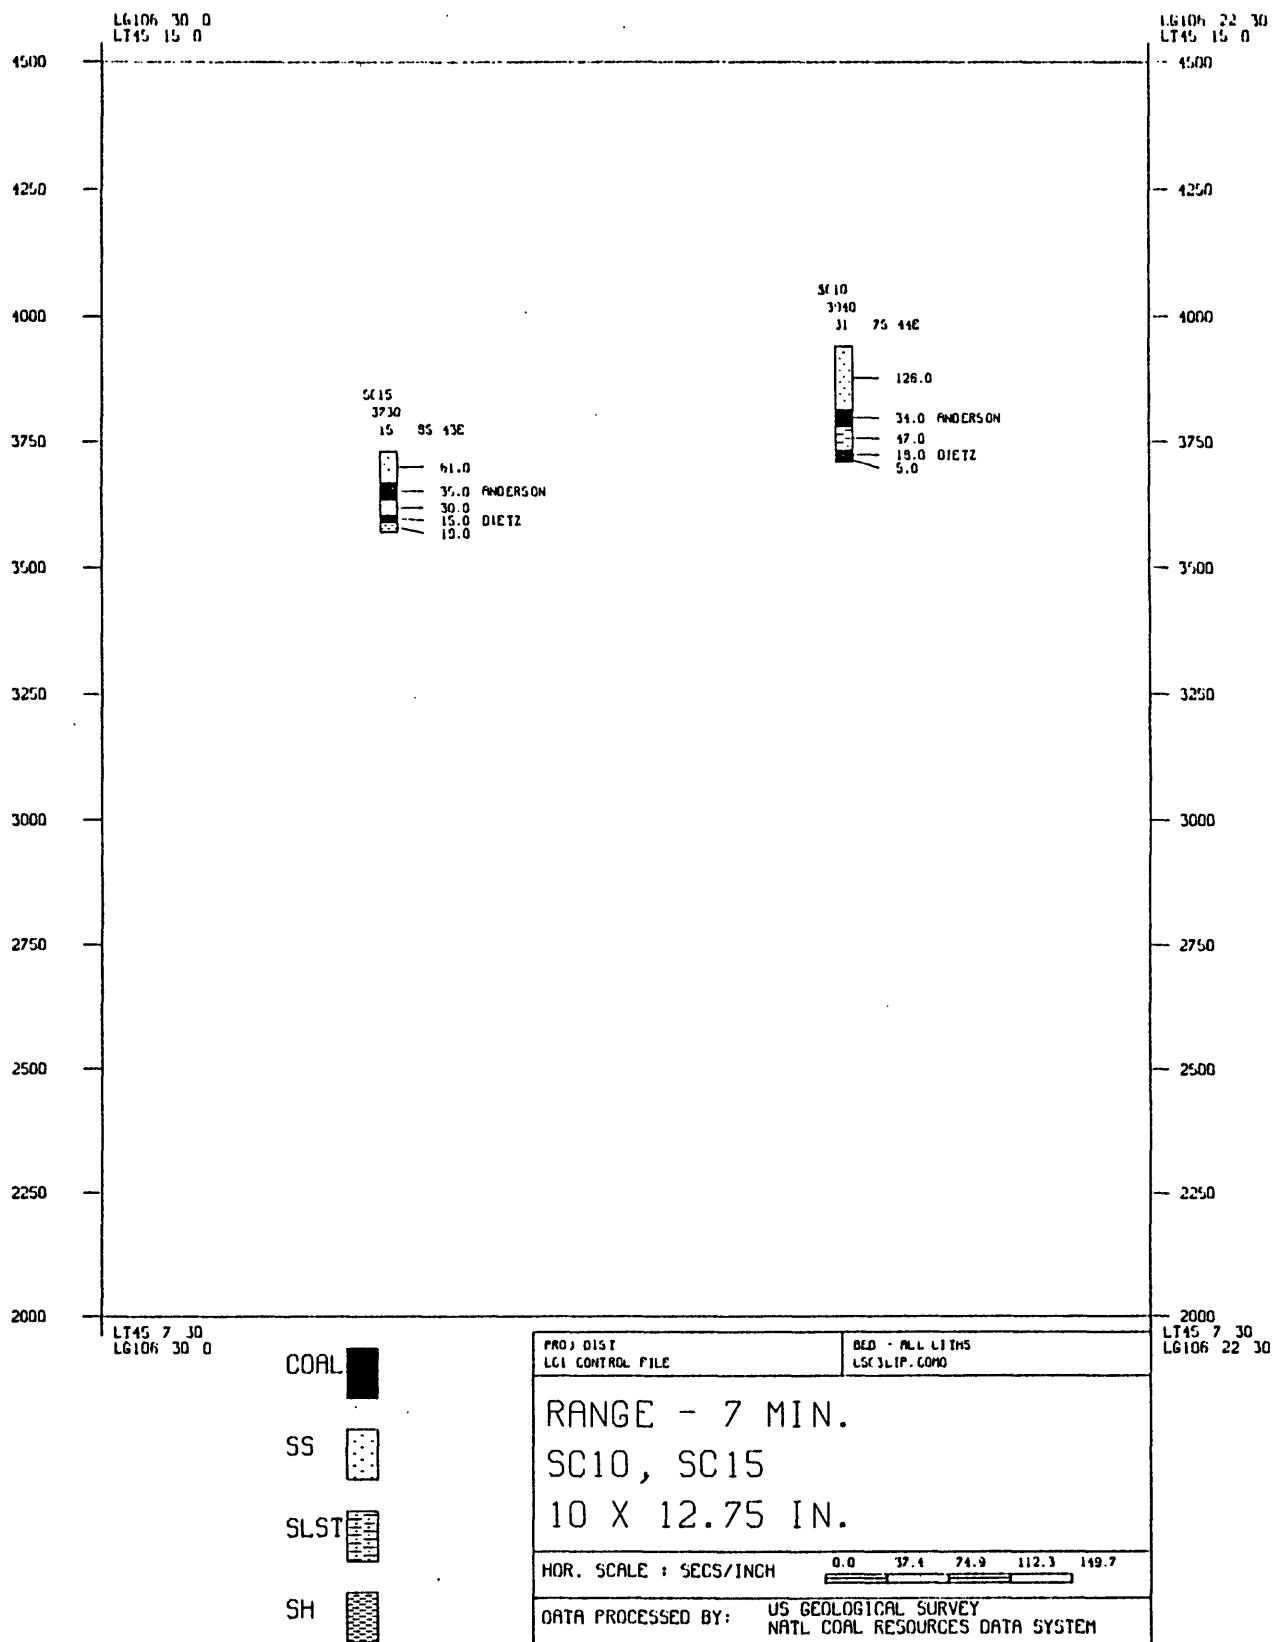
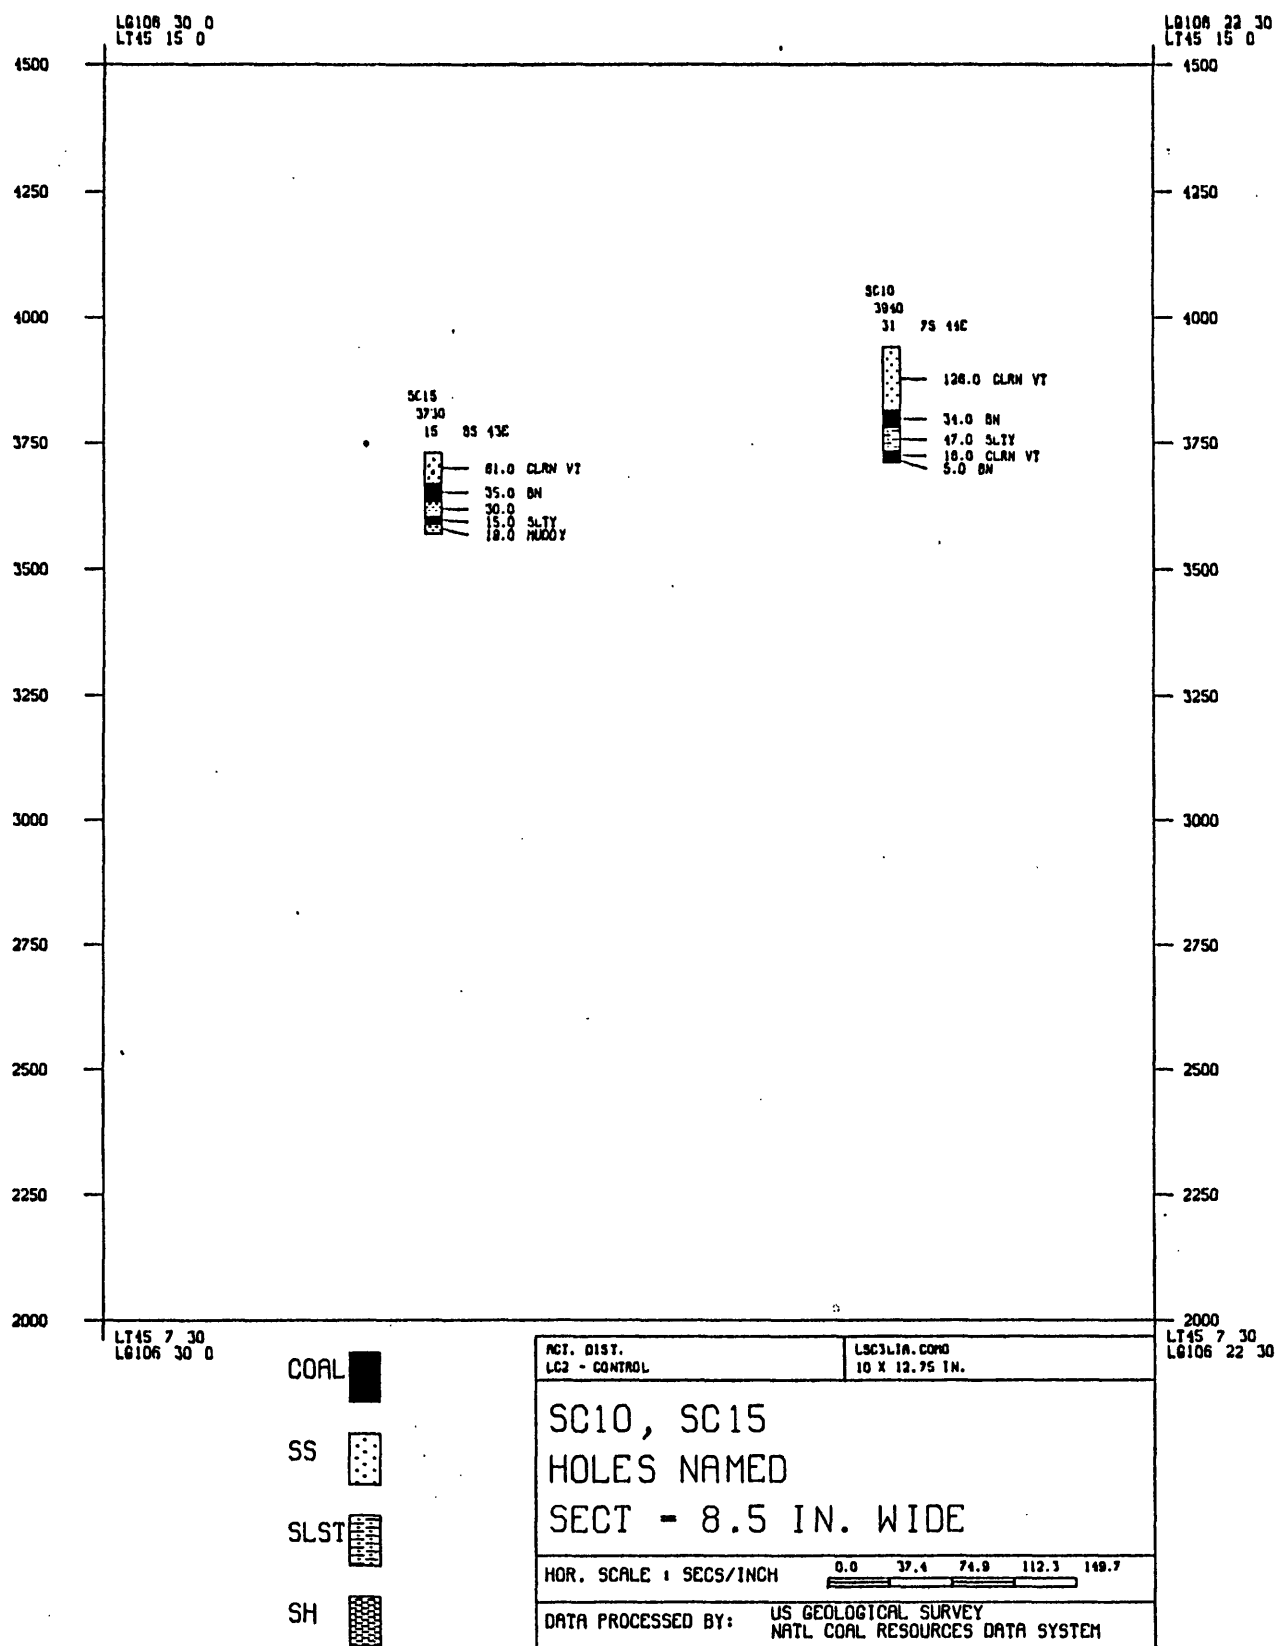
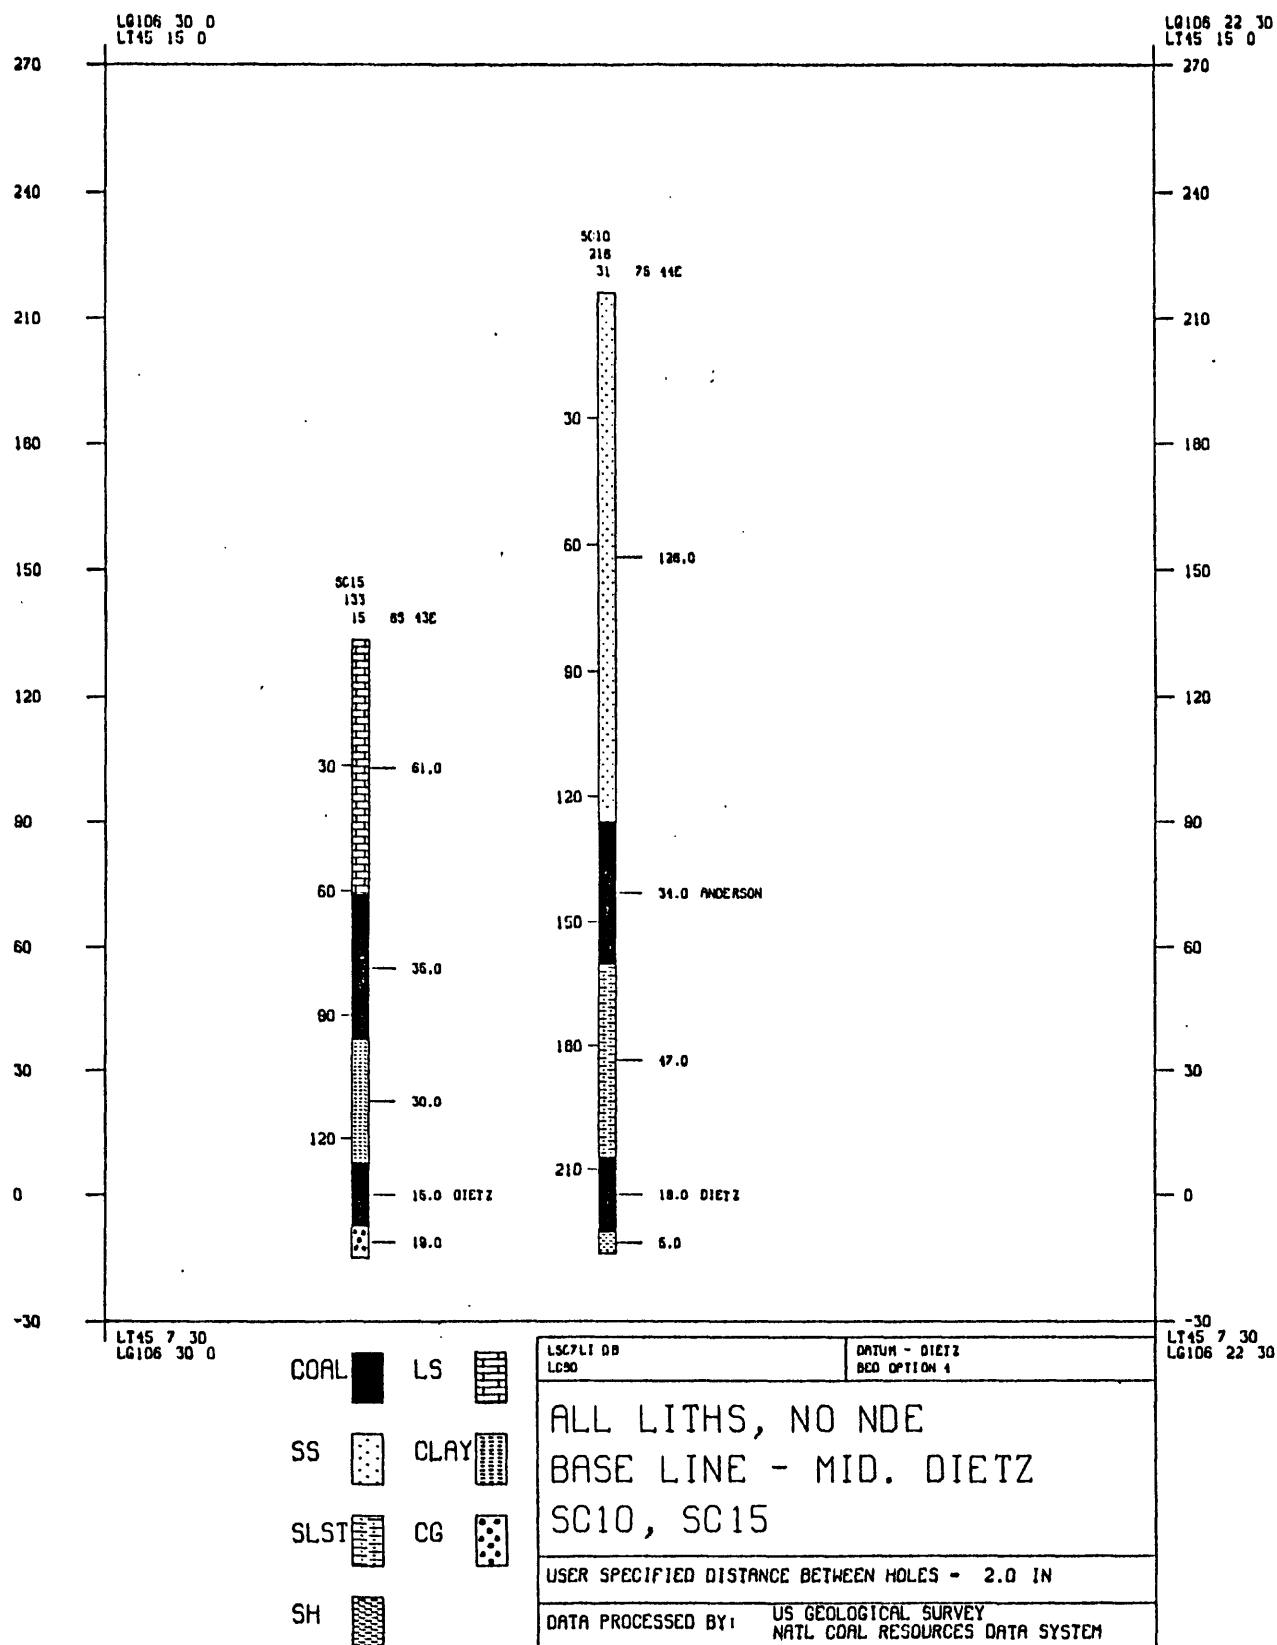

Figure 2. - Projected Distance Option and Lithology Option 5
Figure 3. - Actual Distance, User-Specified Holes Option and Lithmod Option 2
Figure 4 - User-Specified Distance, Datum, Hole Depths Calibrations, and User-Specified Holes Option with Lithology Option 4
The first final output is the stratigraphic cross section plot. Figures 2, 3, and 4 show examples of stratigraphic cross section plots at a reduced size. Figure 2 illustrates the projected distance option, Figure 3 the actual distance option, and Figure 4 the user-specified-distance option; each Figure also contains other options such as lithmod and bed name notations, hole depth and vertical axis calibrations, and datum alignment. Figure 4 shows the seven lithology symbols currently available which in this illustration represent coal, sandstone, siltstone, shale, limestone, clay, and conglomerate. The legend in the lower right corner below the plot boundary contains the user-specified titles provided in answer to the prompts pertaining to titles, credits, and the bar scale in seconds per inch for the horizontal scale. The Appendix explains how the STRATFE.CPL and STRATS were used to produce Figure 4.
- 3) A Prime COMO session showing how STRATS was executed to produce Figure 4.